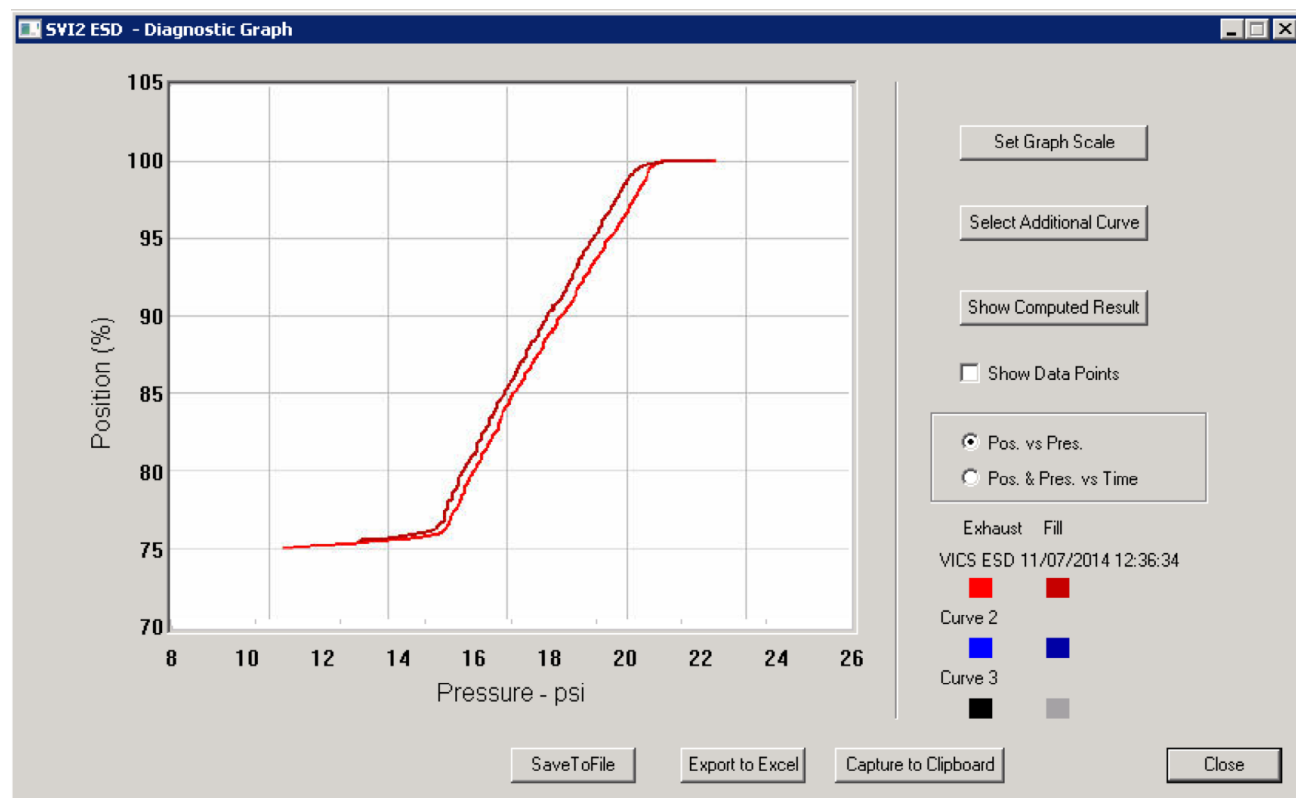

Figure 263 - PST Diagnostic Graph
After you complete the PST and select **View Graph** the results appear on the *Diagnostic Graph* (Figure 263). The *Diagnostic Graph* has several features that provide even further diagnostic capabilities:
- *Pos. vs Pres.* - *Position vs Pressure*, the default view when the diagnostic graph is launched and is represented by the red curve (*Figure 263* on page 256).